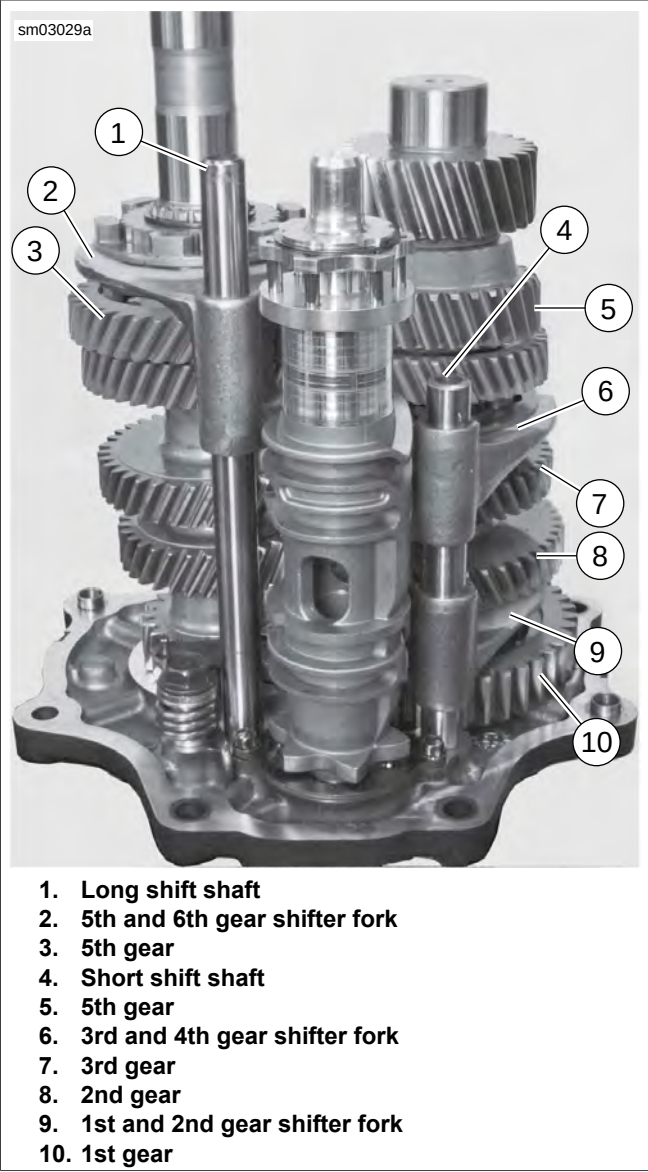

Figure 6-32. Transmission Gears and Shifter Forks
9. See Figure 6-32. Insert shifter fork (2) into the slot of the dog ring in between mainshaft 5th and 6th gear.
- a. Insert shifter fork (6) into the slot of the dog ring in between countershaft 3rd and 4th gear.
- b. Insert shifter fork (9) into the slot of the dog ring in between countershaft 1st and 2nd gear.